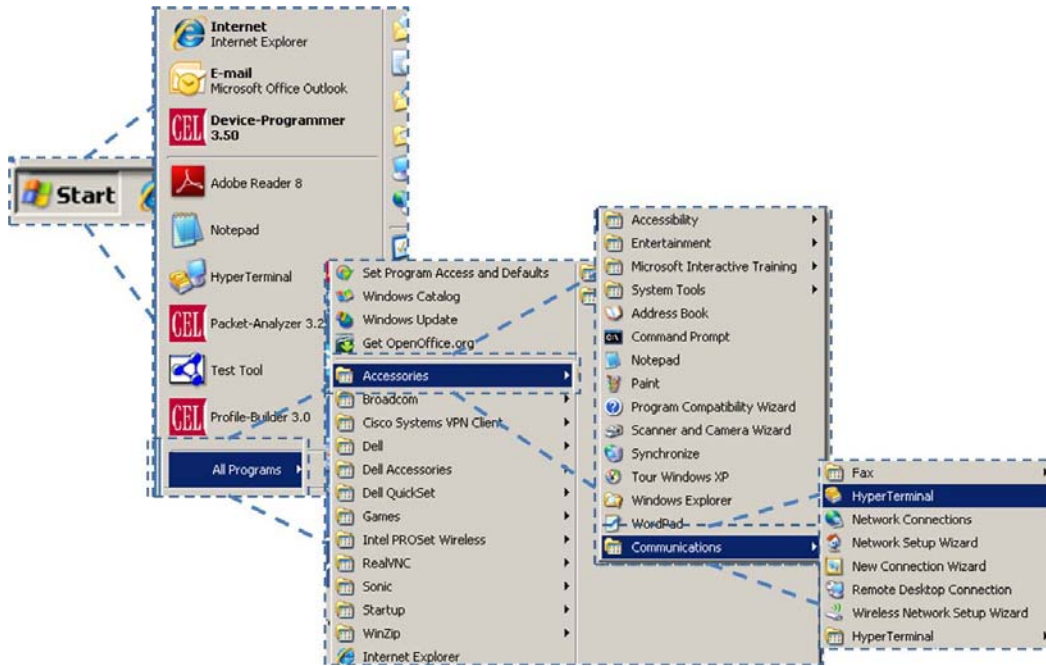

Figure 2 – Screens, Starting HyperTerminal
- 2) From the 'Start' menu, choose 'All Programs' → 'Accessories' → 'Communications' → 'HyperTerminal' as shown in Figure 2.